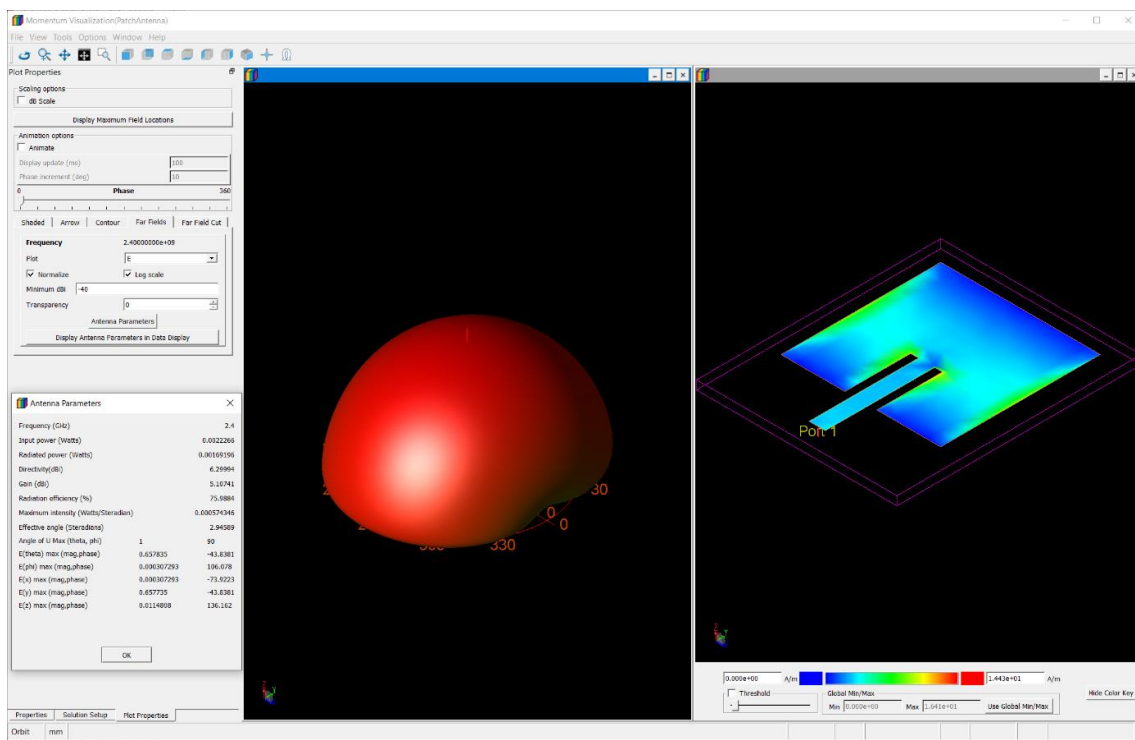

Figure 34. Far field visualization window
- Far field results will be displayed in a separate window, shown in Figure 34. If the window layout does not match the figure, you can use **Window > Tile**. To see the antenna parameters, go to **Plot Properties** (from the bottom tabs). Go to the **Far Field** tab (in the middle) and select **Antenna Parameters** to see all the required data. If the frequency is not set to 2.4 GHz, go to the **Solution Setup** tab and select 2.4 GHz.